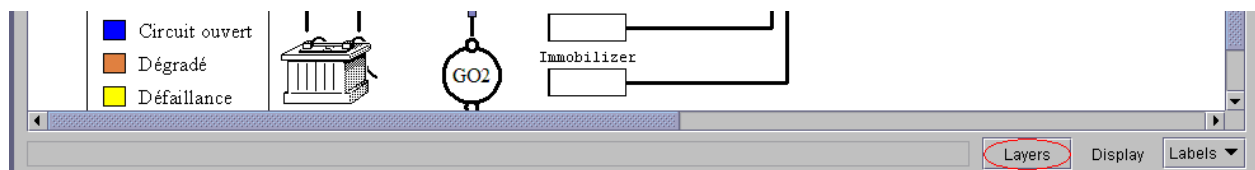
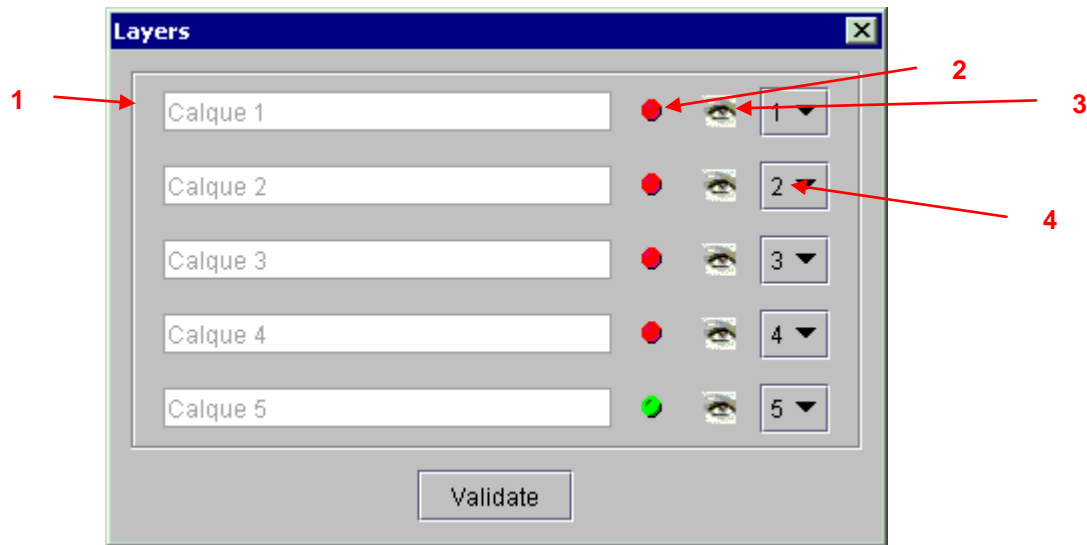

Figure 168 : Layer edition
Figure 169 : Layer manager
- ♦ Click on button **Layers** (Figure 168) to open the layer manager (Figure 169).